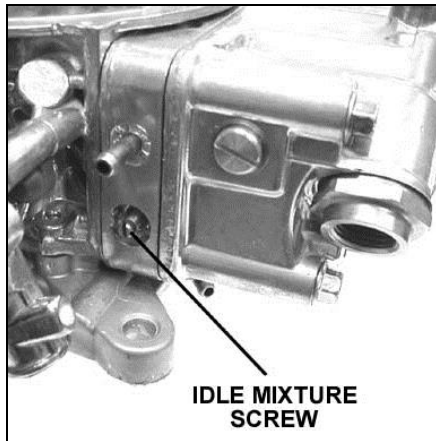

Figure 9
2. Adjust each idle mixture screw (Figures 9 & 10) 1/8 turn at a time, alternating between each screw. Turn them equally, until you achieve the highest possible vacuum reading without adjusting the curb idle speed screw. Turn screws in to lean the mixture. Turn them out to richen the mixture.